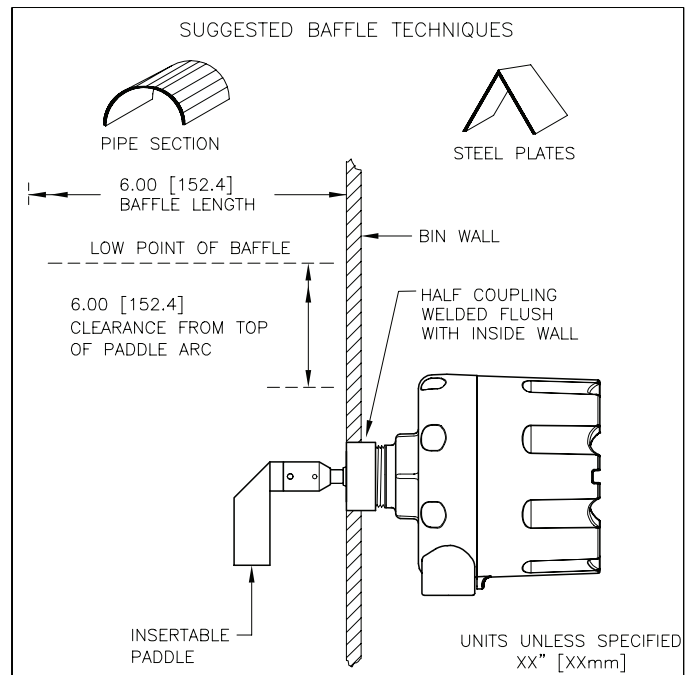

Figure 2
Protective Baffles: (See Figure 2)
- 1) Coupling Mounting** - Cut a hole into the vessel that corresponds to the outer diameter of the applicable pipe coupling. In side mount applications, position a half-coupling flush with the inside of the vessel and weld into place. In top mount applications, position a full coupling halfway into the vessel and weld into place. After greasing the mounting threads with anti-seize compound, thread the KA/KAX into the coupling and position the conduit entrance to prevent moisture infiltration. Attach paddle if applicable. (See Figure 2)